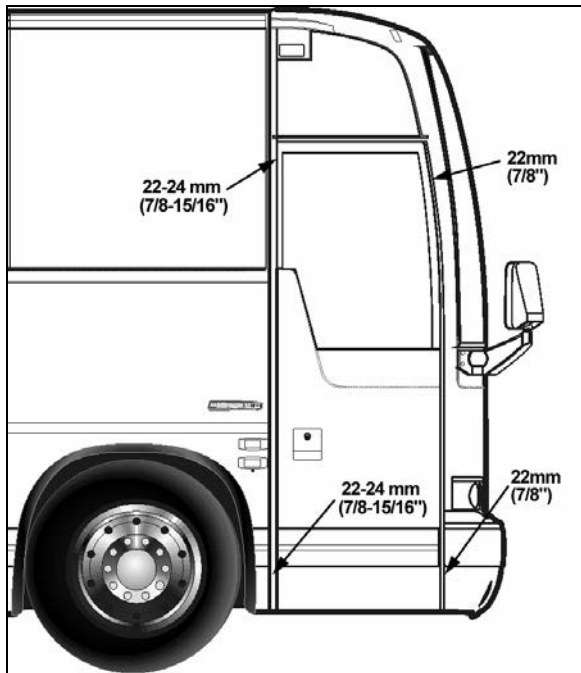

FIGURE 22: SEAL COMPRESSION ADJUSTMENT
2. From the outside of vehicle, insert a straight edge in the gap along the door outside perimeter. Measure the distance between the door frame and the door outside surface at the door four corners (refer to figure 22).
1. Close the door, from the outside of vehicle, insert a straight edge in the gap along the door outside perimeter. Measure the distance between the door frame and the door outside surface at the door four corners (refer to figure 22).